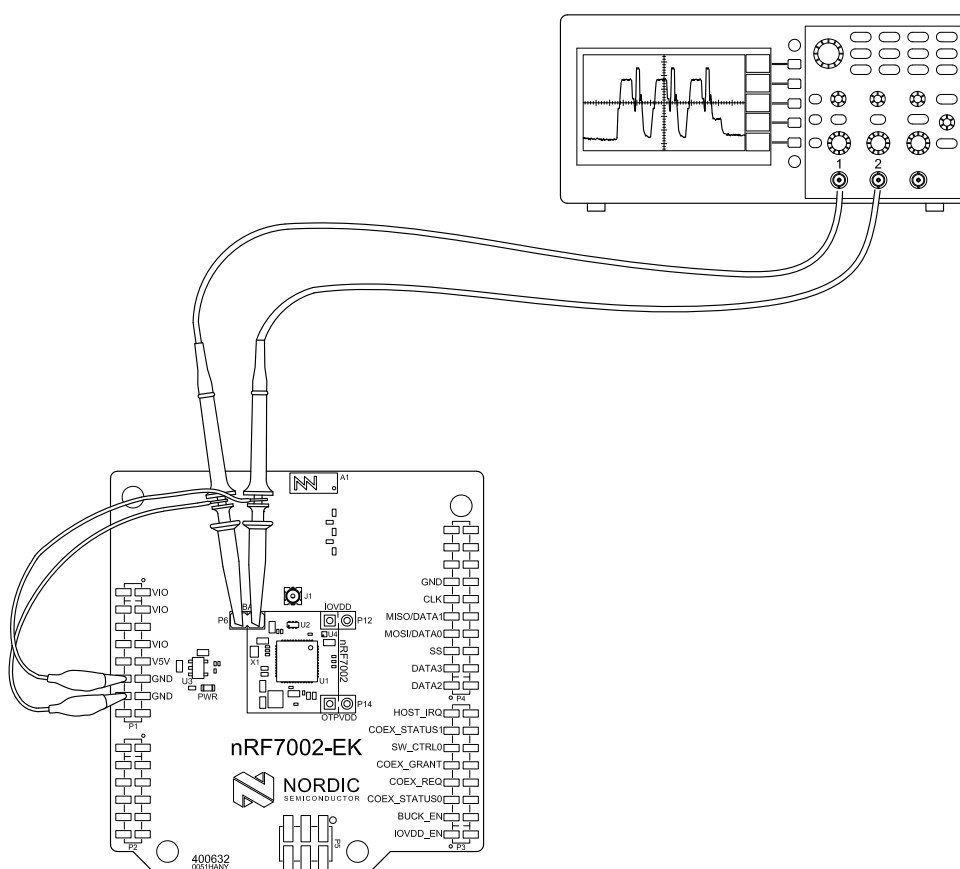

Figure 11: Current measurement with an oscilloscope
2. Connect an oscilloscope in differential mode or similar with two probes on the pins of the **P6** connector as shown in Figure 11: Current measurement with an oscilloscope on page 15.